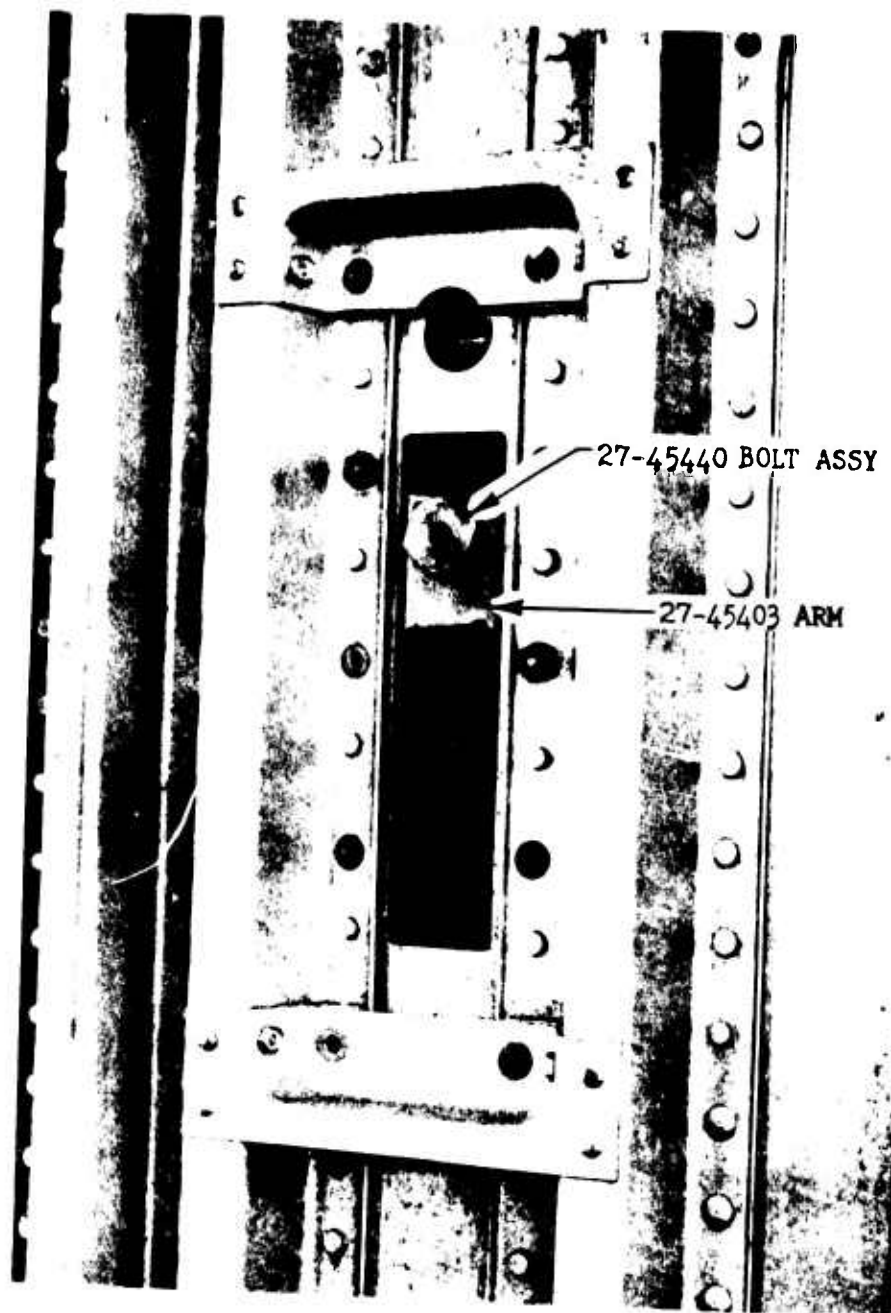

FIGURE 6
- i. Remove the feeler gage and screw in the 27-45440 bolt assembly until it bottoms out on the 27-45402 washer and the 27-45403 arm (See Fig.6).
- b. Using the check gage determine if a .020 inch gap exists between the 27-45406 hook and the facing surface of the 57-72212 fitting (See Fig. 6).